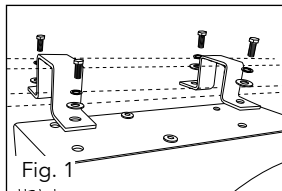

Fig. 1
1. The cable hoist can be fitted with two fastening brackets (1) (supplied) with which it has to be fastened to a rectangular steel bar (Fig. 1). The dimensions of the bar must conform with the size of the fastening brackets (40 x 40mm steel) and must be capable of supporting twice the rated load.